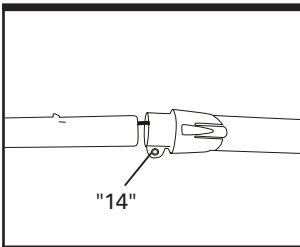

Fig. 1
a). Loosen the bolts (14) with a supplied hex key,
b). Align the middle shaft (4) with the lower shaft (19) and insert it until nipple snaps into place audibly. (See Fig. 1).
c). Repeat in the same way for middle shaft (4) and upper shaft (3).